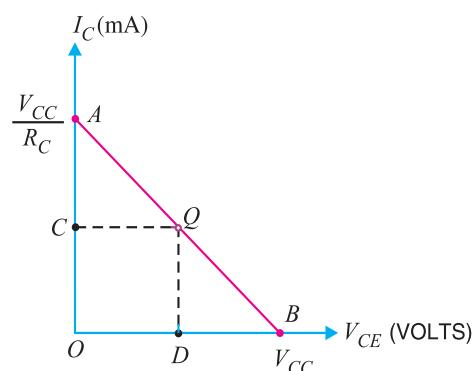

Fig. 8.36
**Importance.** The current ( $I_C$ ) and voltage ( $V_{CE}$ ) conditions in the transistor circuit are represented by some point on the output characteristics. The same information can be obtained from the load line. Thus when  $I_C$  is maximum ( $= V_{CC}/R_C$ ), then  $V_{CE} = 0$  as shown in Fig. 8.36. If  $I_C = 0$ , then  $V_{CE}$  is maximum